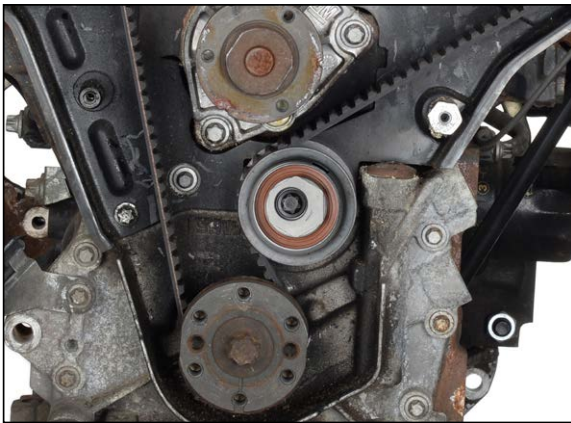

Fig. 17
3. Turn the cam of the lower tensioner pulley with chuck key MKM-6038 or water pump pliers in a counterclockwise direction until the top of the cam is at the 2 o'clock position (Fig. 17).